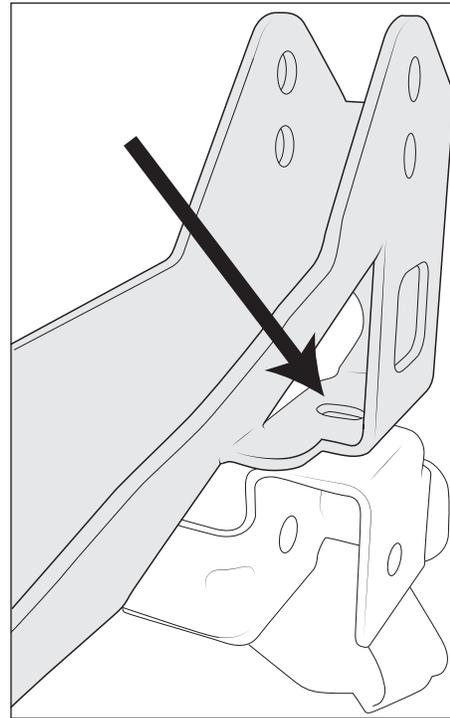

Figure 5
A. Position the rear track bar tower on the axle and mark the hole as shown. (Fig. 5)